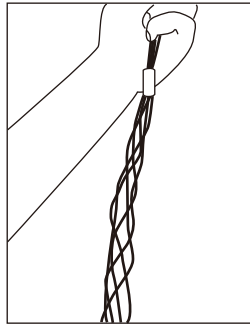

Fig. 2
3. Push wire up through the Cam Head and through Double Braided Mesh. Leave at least one inch of room at the end of the mesh (Fig 2).